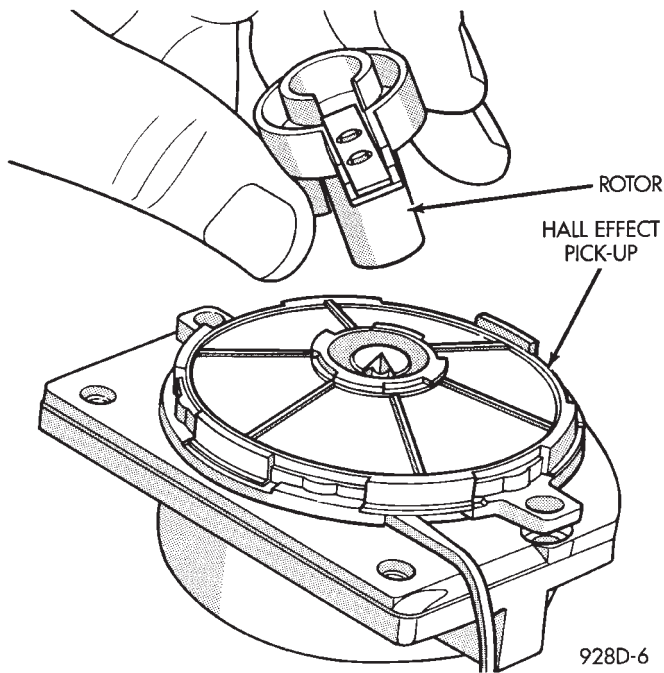

Fig. 18 Ignition Rotor—2.2L TBI, 2.5L TBI and Turbo I Engines
- (1) Remove splash shield and cap. Refer to Distributor Removal.
- (2) Remove rotor from shaft (Fig. 18).
- (2) Install rotor (Fig. 18).
- (3) Install cap and splash shield. Refer to Distributor Installation.